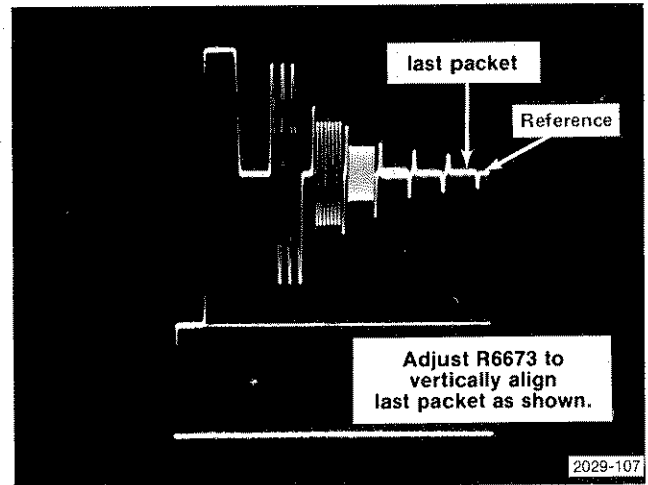

Fig. 3-38. Typical vectorscope (Y) display of Multiburst luminance.
**CHECK**—The last packet level matches the reference level (see Fig. 3-38).